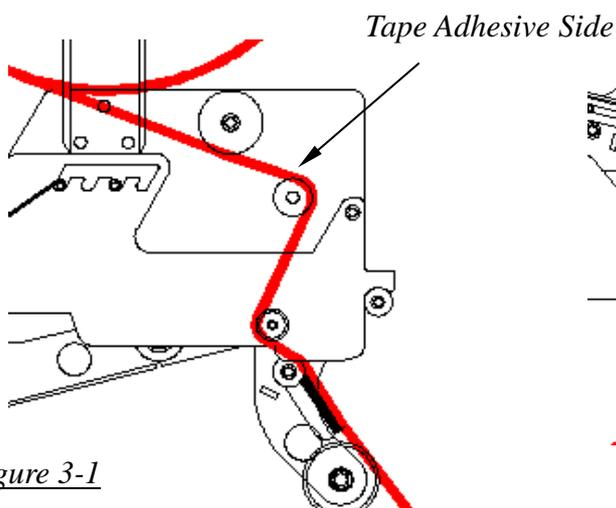

Figure 3-1
- B. Adhere the guide plate to the tape, as shown in Figure 3-1.